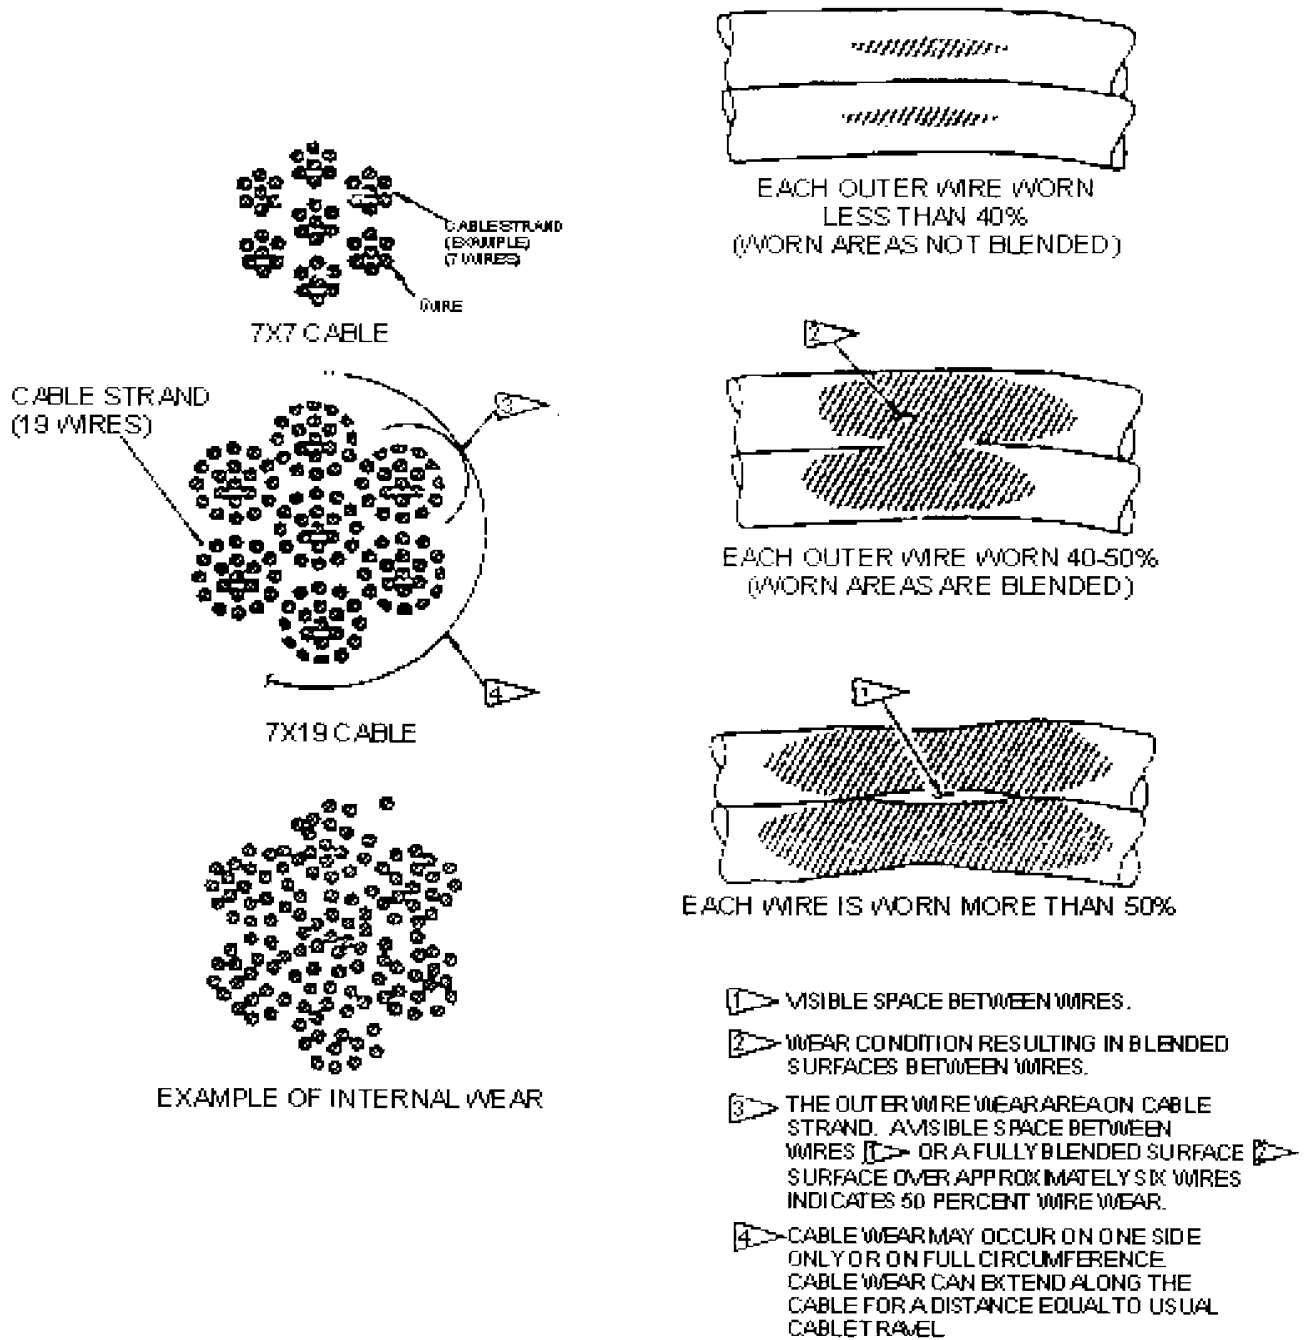

Figure 1
- (i) One cable strand had worn wires where one wire cross section is decreased by more than 40 percent (see Figure 1)